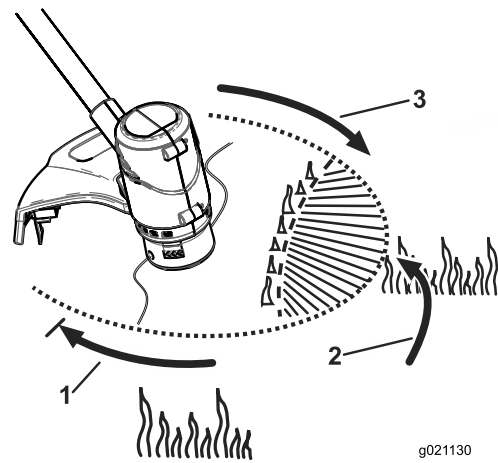

Figure 15
- Keep the trimmer tilted toward the area being cut; this is the best cutting area (Figure 15, item 2.).